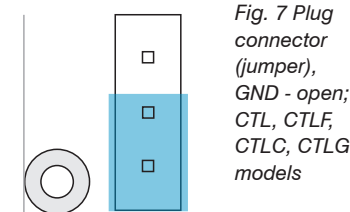
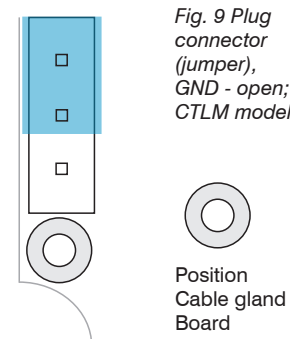

Fig. 7 Plug connector (jumper), GND - open; CTL, CTLF, CTLC, CTLG models
Fig. 9 Plug connector (jumper), GND - open; CTLM models
▶ Please push the jumper into the appropriate position, see Fig. 7, see Fig. 9.